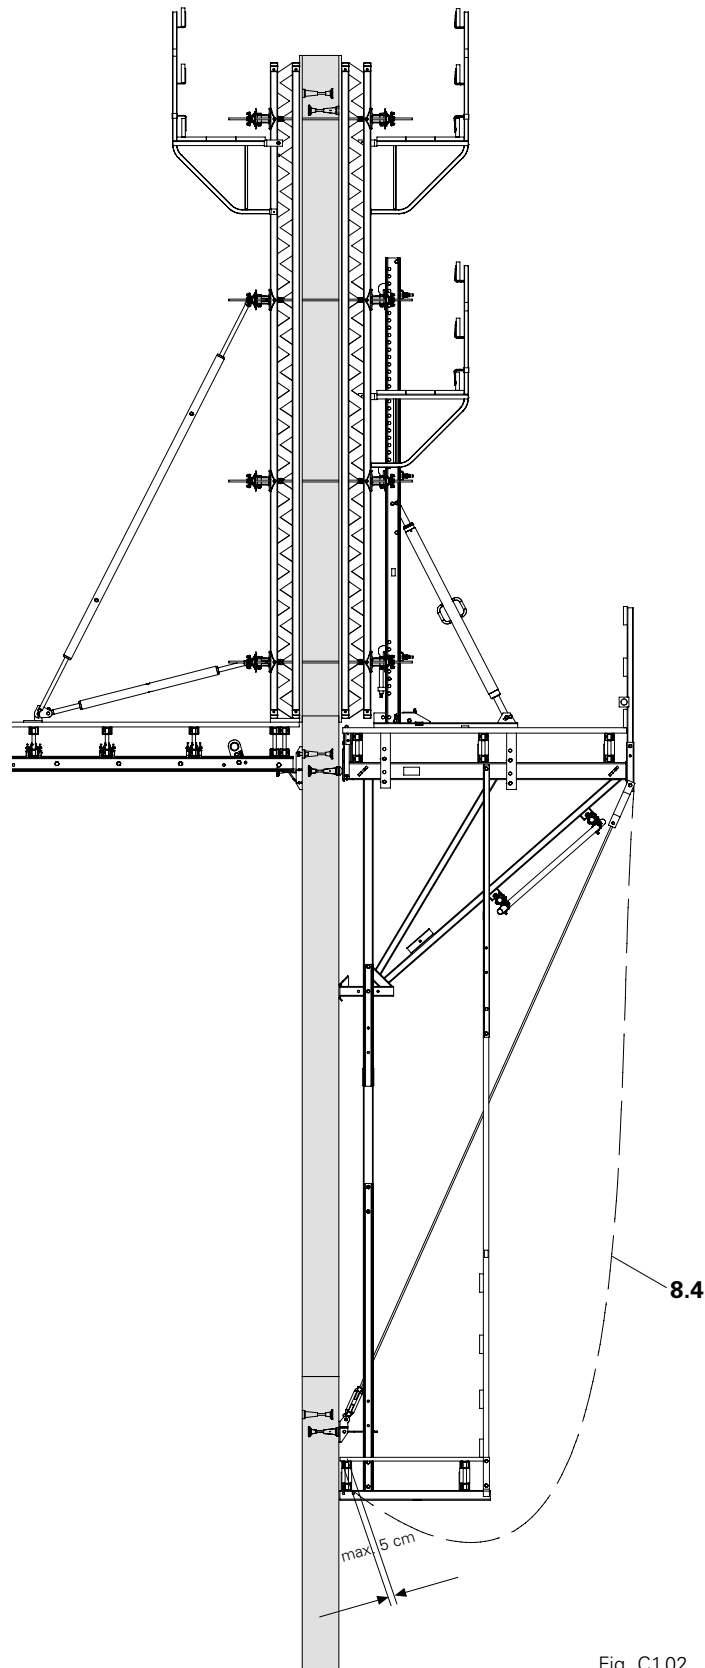

Fig. C1.02
- Safe working conditions for tie installation are to be provided by intermediate platforms. (Fig. C1.02)